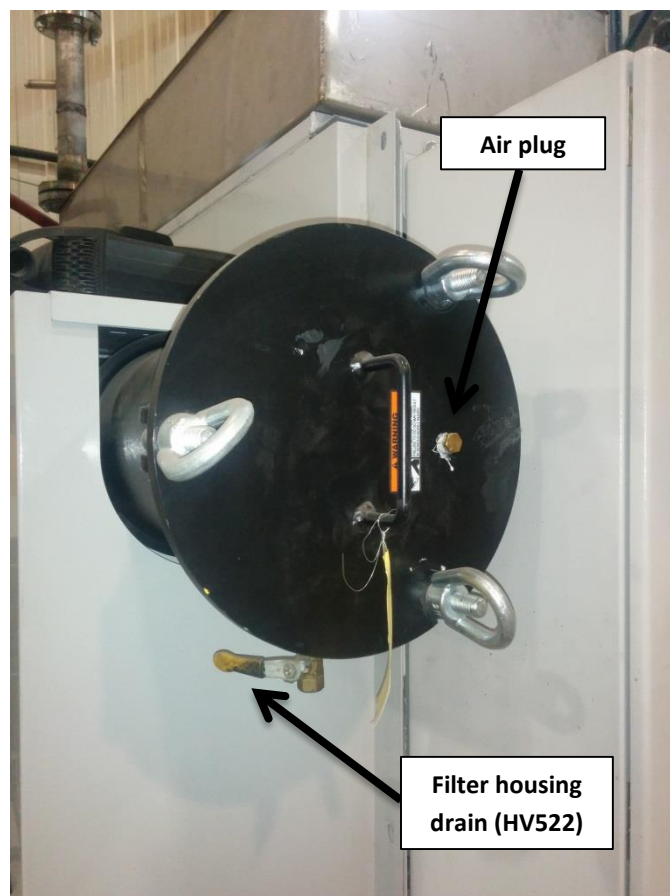

Figure 6: Filter housing draining
2. Open the Filter housing drain hand-valve (See **Figure 6**) located at the bottom of the filter housing, and collect the water in a bucket. If flow stops, insert a small rod through the valve to push out solids that may be blocking the flow. At least 1-2 buckets of water should come out through the housing drain valve. To help with the water flow, remove the air plug located on the housing cover (See **Figure 6**).